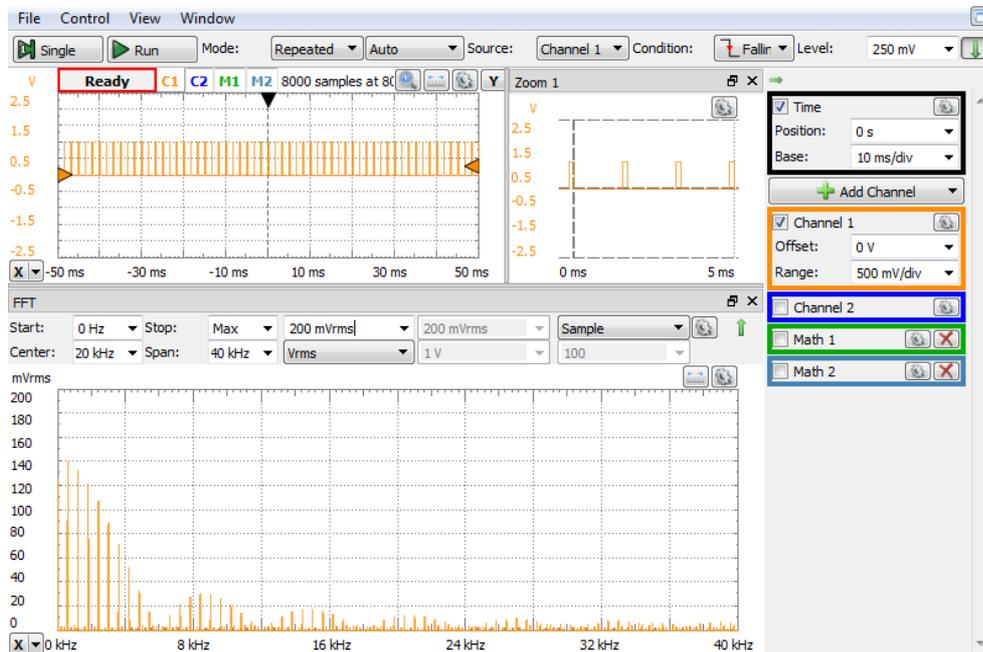

Figure 1.8 Rectangular signal: DF = 10%
- o Set Time, Channels and Trigger as in Figure 1.8.
- Set FFT as in Figure 1.8. Notice the settings effect.